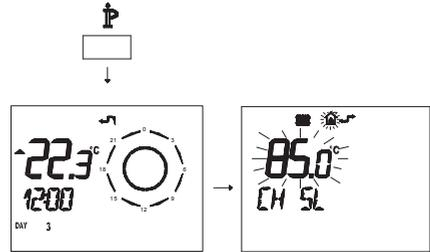

Fig. 7.28
- Press button  for more than 3 seconds to enter in *INFO* mode (Fig. 7.28).